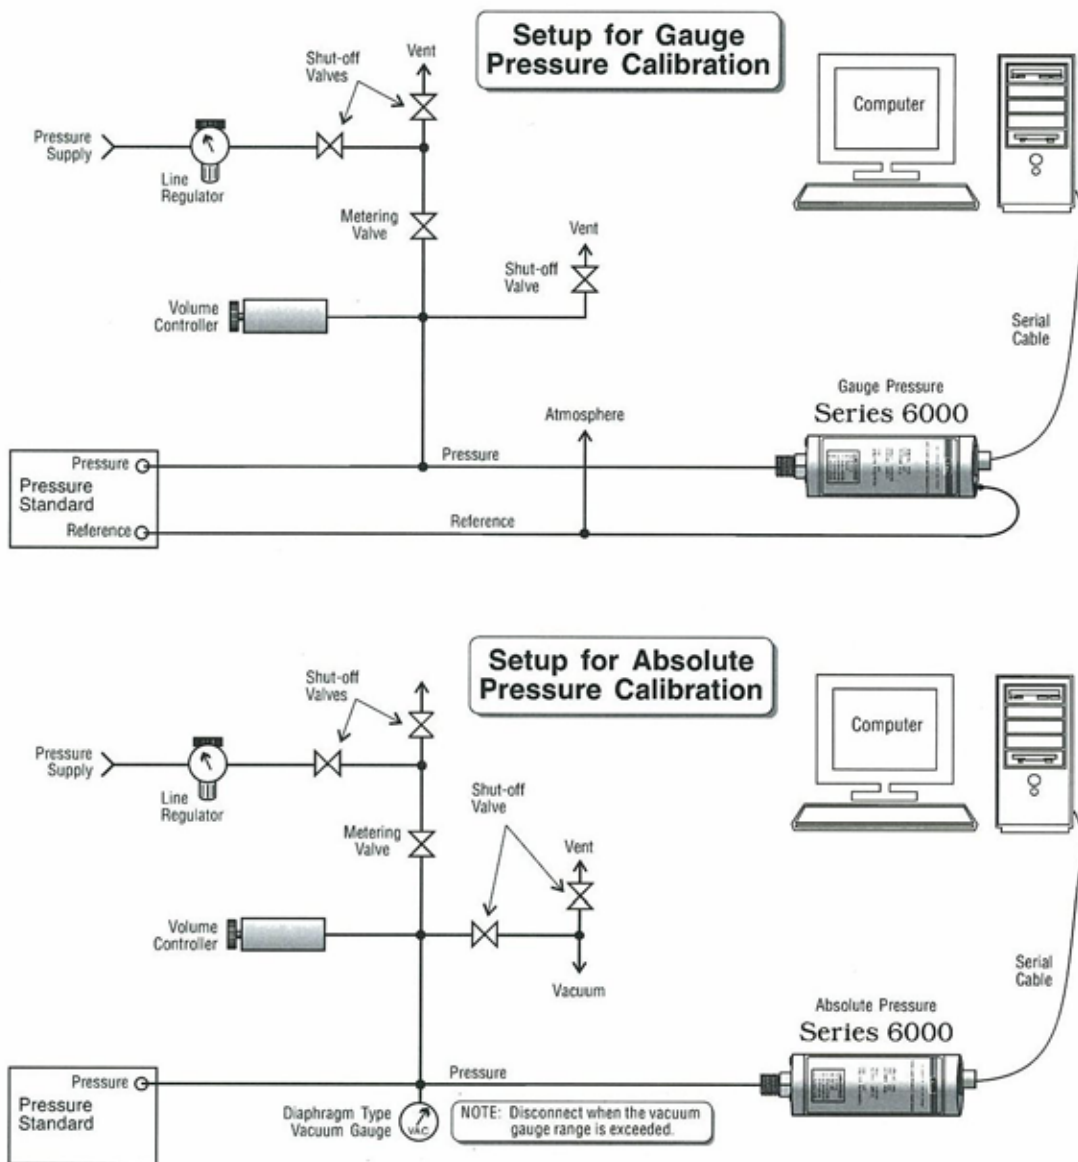

Figure 7.2 - Calibration Setup
The following equipment is needed to calibrate a gauge transducer (see Figure 7.2):
Additional equipment required to calibrate sub-atmospheric transducers (absolute, vacuum or bi-directional pressure types) is illustrated in Figure 7.2. These items are:
2. Use the setup for absolute pressure shown in Figure 7.2. Evacuate and hold the sensor at approximately 300 to 400 millitorr. Allow the system to stabilize at that pressure for 2-5 minutes. Take the vacuum reading and convert it to an equivalent psi value. This reading becomes the “true pressure”.